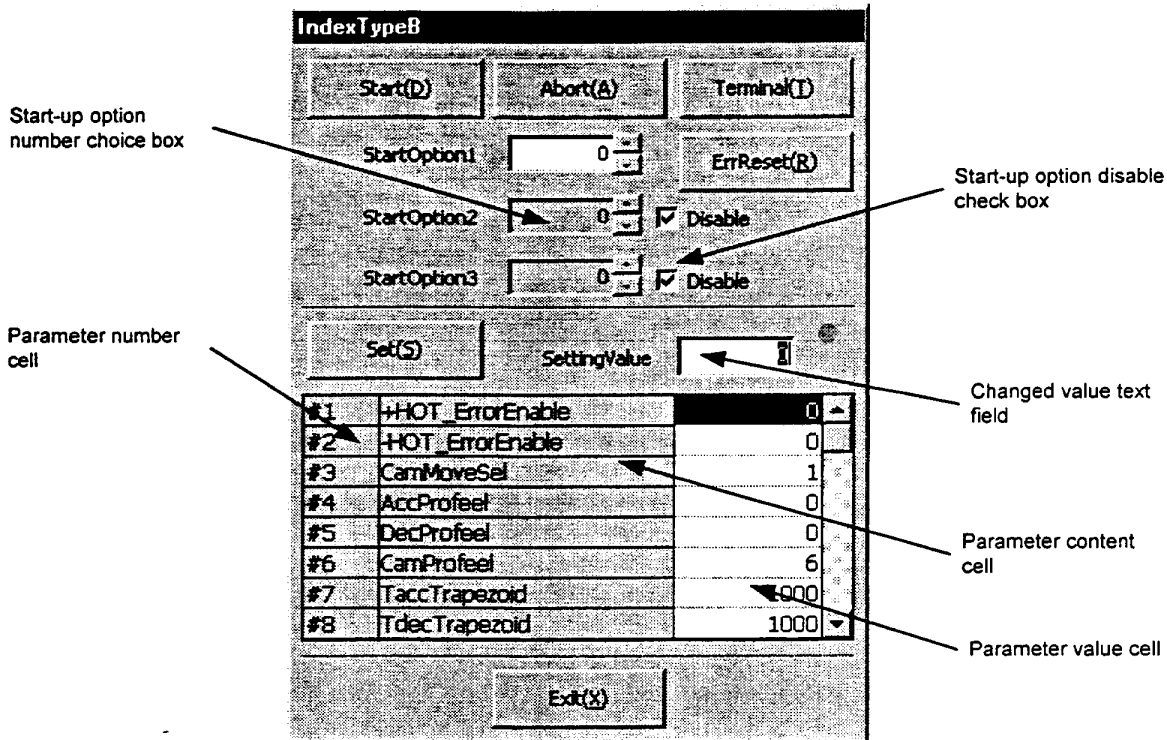

Figure 7.24 "Index TypeB" dialog box
Click "*IndexTypeB (B)*" in the "DriveMenu" dialog box to display the "Index TypeB" dialog box (see Figure 7.24). If the connection with the driver is established, the current values of the related parameters are read and can be edited.